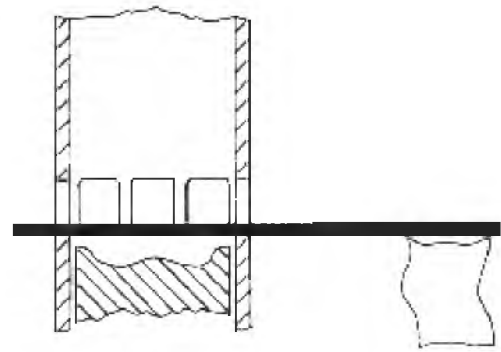

Fig. 15-2 -- "Stop-Bar" Inserted Through Cylinder Ports
3. Insert a brass "stop-bar" (minimum 13 mm [1/2"] hexagonal or square preferred) of suitable length through the ports of the No. 1 cylinder so that the end of the bar passes through a port on the opposite side of the cylinder, Fig. 15-2.